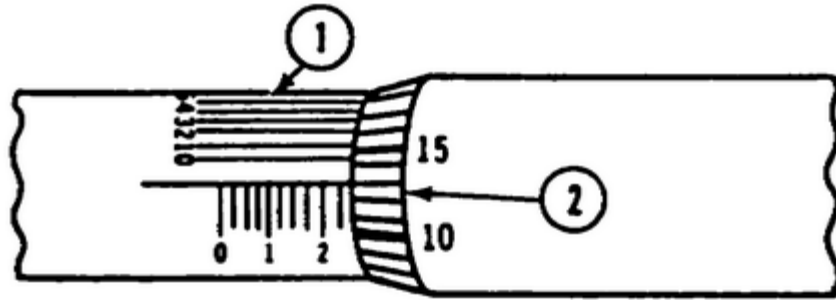

FIGURE 9. VERNIER MICROMETER SCALE
The 10 spaces on the vernier scale, Figure 9, (1) are equivalent to 9 spaces on the thimble (2). Therefore, each unit on the vernier scale is equal to 0.0009 inch and the difference between the sizes of the units on each scale is 0.0001 inch.